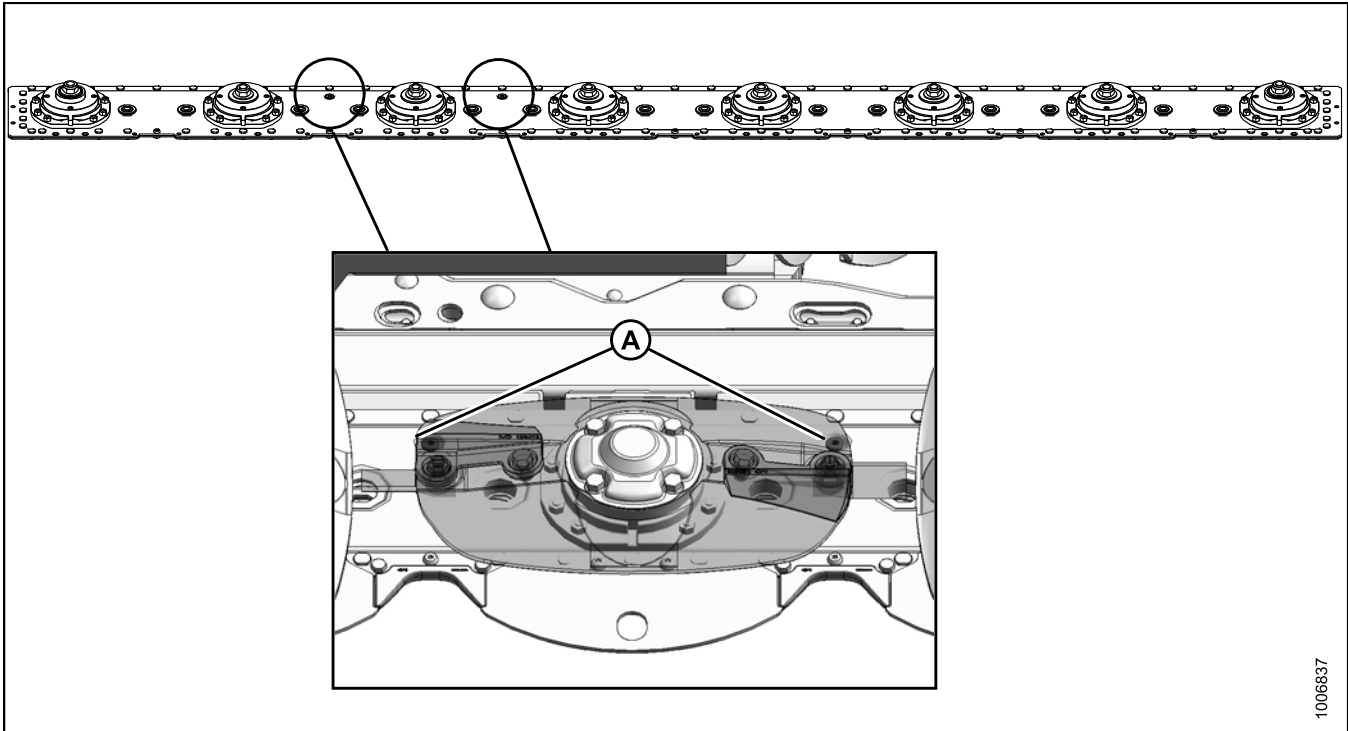

Figure 7.16: Cutterbar Filler Plug Locations
9. Locate one of the two filler plugs along the top of the cutterbar. Refer to Figure 7.16: Cutterbar Filler Plug Locations, page 114
10. Clean around either filler plug (A) and remove one plug with an 8 mm hex Allen L-key.